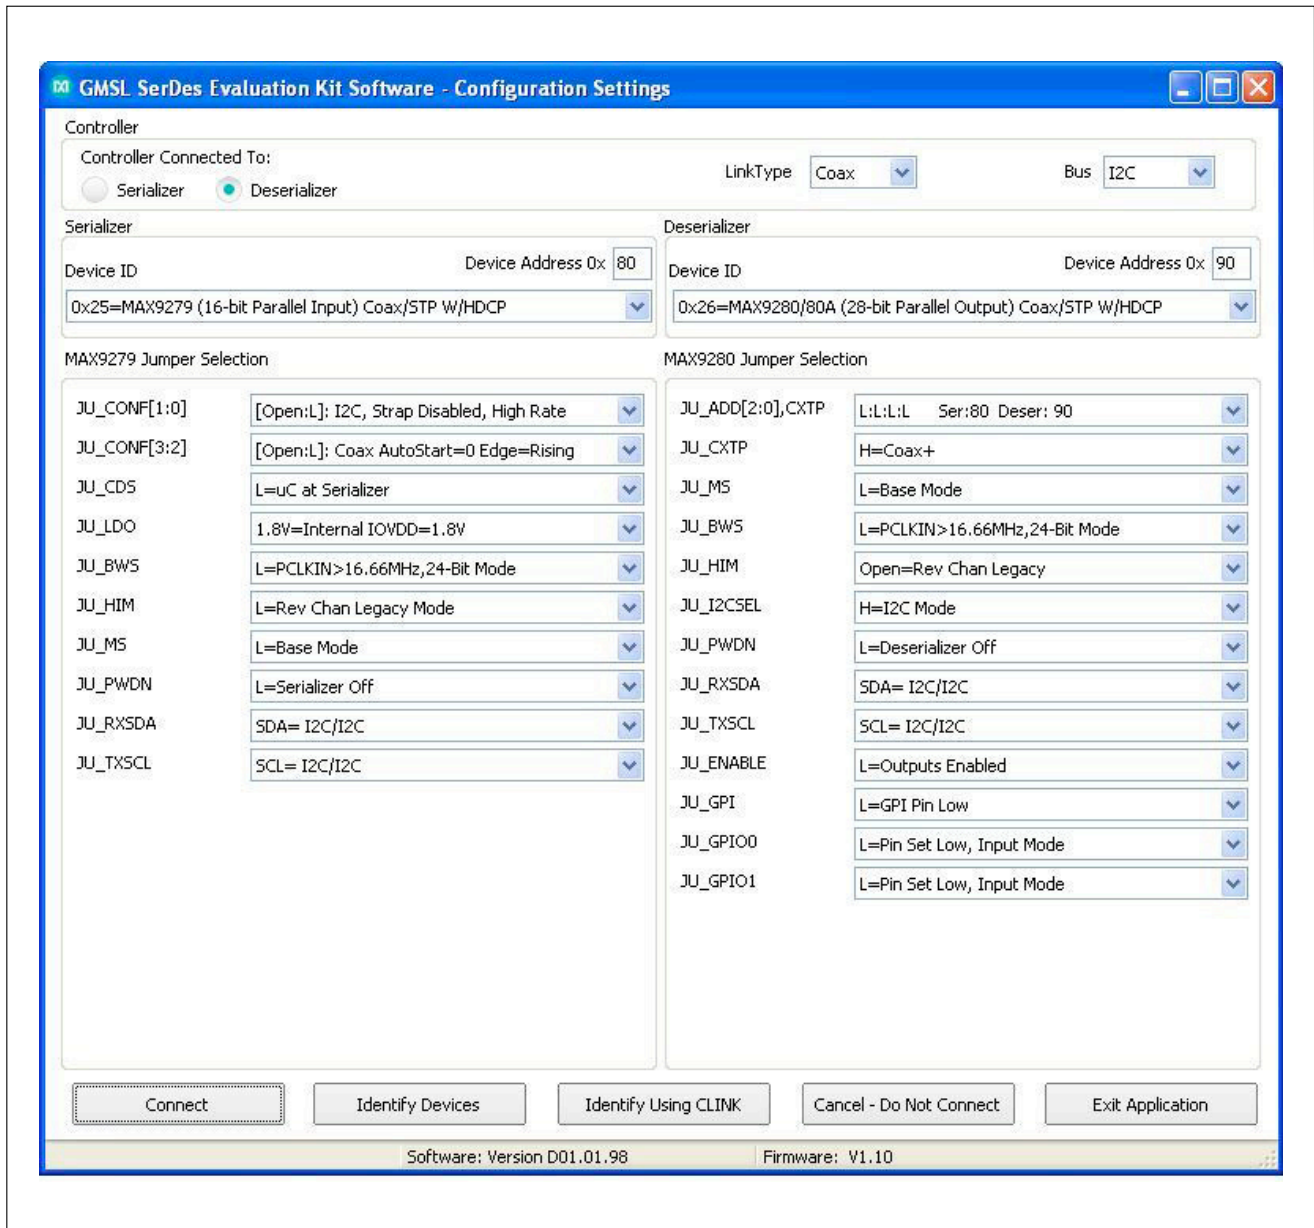
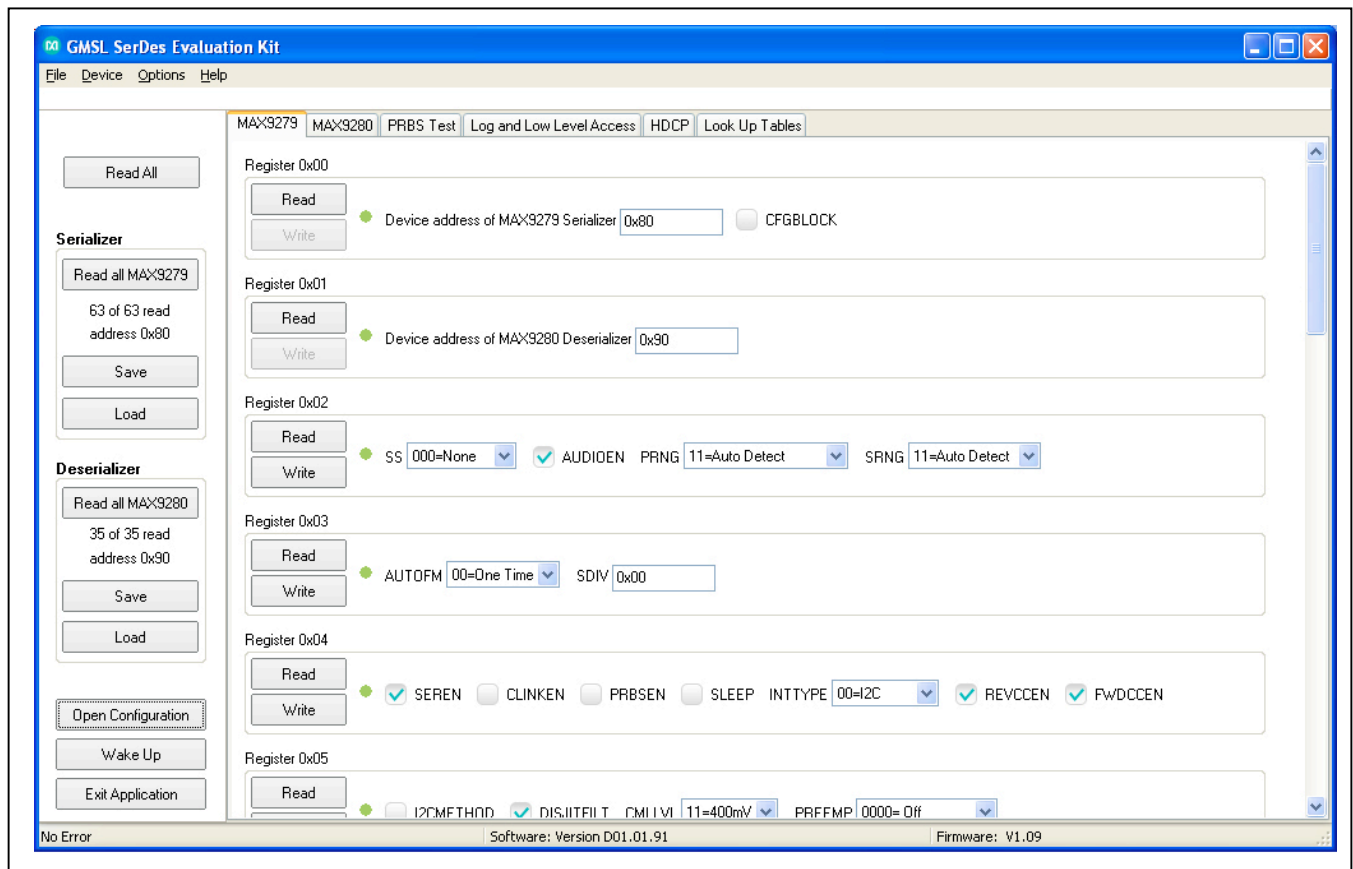

Figure 1. MAXSerDesEV-N EV Kit Software: Configuration Settings Window
Figure 2. MAXSerDesEV-N EV Kit Software: Evaluation Kit Window (MAX9279 Tab)
- 13) The EV kit software **Configuration Settings** window is the first window that opens after successful launch. It helps the user to set up the serializer and deserializer boards properly and specify the mode of operation (Figure 1).
- 17) I²C-to-I²C mode support: To enable I²C-to-I²C mode, change jumpers JU_CONF1 and JU_CONF0 (Figure 1), and change jumpers JU_TXSCL from the TX to SCL position and JU_RXSDA from the RX to SDA position. Press the **Identify Devices** button to verify proper settings. Alternatively, make the changes and select **I2C** from the **Bus** drop-down list before pressing the **Connect** button to start the **GMSL SerDes Evaluation Kit Window** (Figure 2).
The **Configuration Settings** window (Figure 1) is the first window that opens after program launch. It allows the user to specify evaluation board setup and mode of operation.
The **Evaluation Kit** window (Figure 2) provides access to all internal functions of the DUTs by means of reading and writing registers through different tabs, allowing the user to evaluate various functions of the SerDes.
The **MAX9279** tab (Figure 2) lists the serializer’s registers and bit maps. **Read** and **Write** buttons in each register group box allows read/write access for each bit (or group of bits) that specify a function or condition, as defined in the